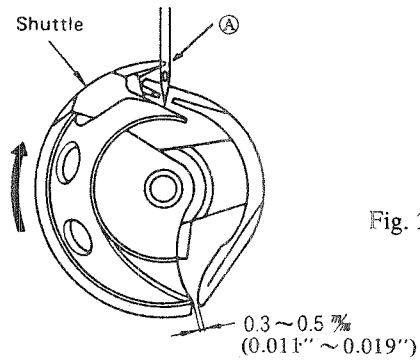

Fig. 29
When the state is as described in the above 1), the center of the needle coincides with the point of the shuttle at A. (Fig. 29)
<p>1) Referring to Standard Adjustment (1) Height of the needle bar, make the lower marker line engraved on the needle bar flush with the bottom end of the bushing.</p> <p>2) and 3) Loosen setscrew ① of the shuttle driver, and adjust the rotational and longitudinal directions of the shuttle driver.</p> <p>(Caution) Ensure to turn the shuttle in the arrowed direction as shown in Fig. 29 when adjusting the timing of the shuttle.</p> <p>4) Loosen setscrew ② of the shuttle race, and turn eccentric shaft ③ to make adjustment.</p> <p>5) Loosen setscrew ② to perform adjustment. Enough care should be exercised when performing the adjustment described in 4), namely the adjustment of the clearance between the needle and the point of the shuttle.</p> <p>(Note) The clearance in the rotational direction between the shuttle and the shuttle driver should be 0.3 mm to 0.5 mm (0.011"~0.019") as shown in Fig. 29. Strike points D for adjustment. After adjustment, check that point C is evenly spaced vertically with respect to the shuttle.</p> <div data-bbox="475 1093 794 1384" data-label="Image"> <p>The diagram shows a cross-section of a shuttle mechanism. It features a central circular component with a smaller inner circle. Two curved arms extend from the center towards the outer edge. Label 'C' points to a small gap or notch at the top of the outer ring. Label 'D' points to a specific location on the right-hand curved arm.</p> </div> <p>Fig. 33</p>	<p>1) and 2) Slightly reduce the height of the needle bar (upper marker line) for floppy material, and on the contrary, slightly increase the height for heavy-weight material to adjust the timing of the shuttle. (For prevention of stitch skipping)</p> <p>3) If the clearance is more than 0 mm, the needle will be bent in the direction of the shuttle point, causing scratches on the shuttle point and the needle. On the contrary, however, excessive contact between the needle and the shuttle driver may cause stitch skipping.</p> <p>4) If the clearance is greater than 0.05 to 0.1 mm (0.001 ~ 0.003"), stitch skipping will occur. If it is smaller than the specified values, the needle strikes the shuttle point and scratches occur, leading to thread breakage or fine splits of thread.</p> <p>5) If the clearance is smaller than 7.5 mm (0.295") the needle thread will not be fully spread, often causing the needle thread to bite into the shuttle.</p> <ul style="list-style-type: none"> ● If the clearance between the shuttle drive and the shuttle is greater than 0.3 to 0.5 mm (0.011" ~ 0.019"), the shuttle noise will be louder. On the contrary, if the clearance is not enough, poorly tensed stitches will result when sewing with a thick thread.